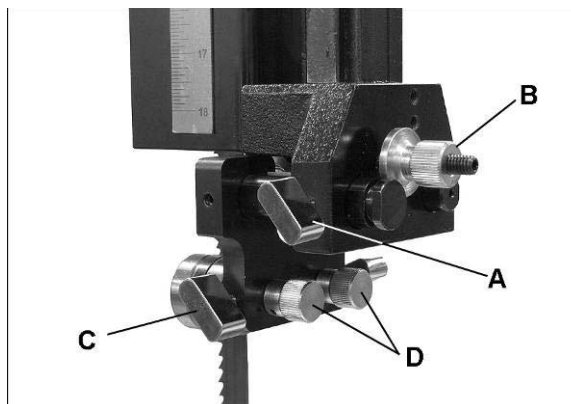

Figure 28
Refer to Figures 28 through 31.
4. Loosen the locking screw (A, Figure 28).